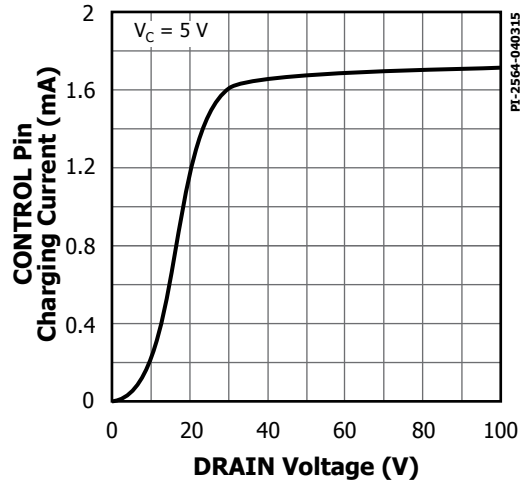

Figure 68. I_C vs. DRAIN Voltage.
- E. It is possible to start up and operate TOPSwitch-GX at DRAIN voltages well below 36 V. However, the CONTROL pin charging current is reduced, which affects start-up time, auto-restart frequency, and auto-restart duty cycle. Refer to Figure 68, the characteristic graph on CONTROL pin charge current (I_C) vs. DRAIN voltage for low voltage operation characteristics.